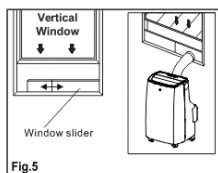

Fig. 5
6. Affix the hose outlet into the window slider kit and seal. (Fig. 5 & 6).